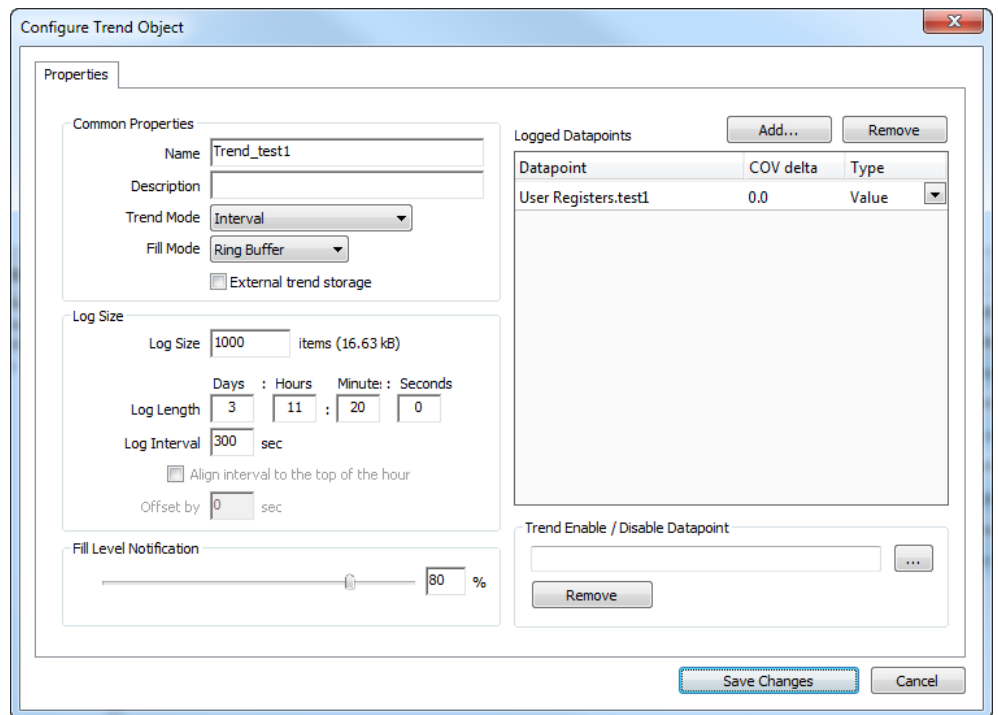

Figure 228: Basic Trend Object Configuration.
3. In the **Create New Trend Object** dialog (shown in Figure 228) enter a name and optionally a description for the trend log object.